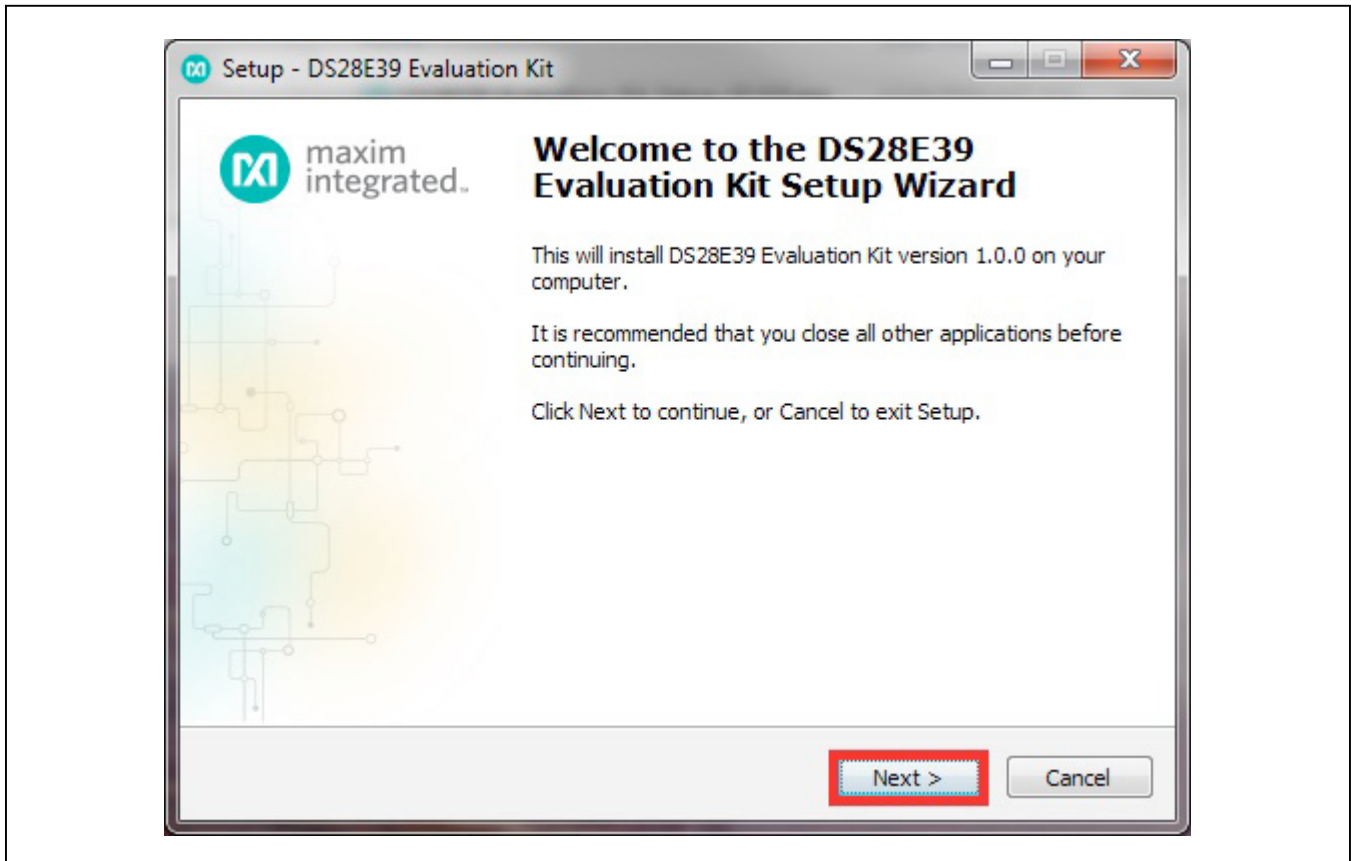

Figure 2. DS28E39 Setup Wizard
- 3) The setup wizard opens; click on **Next**, as shown in **Figure 2**.